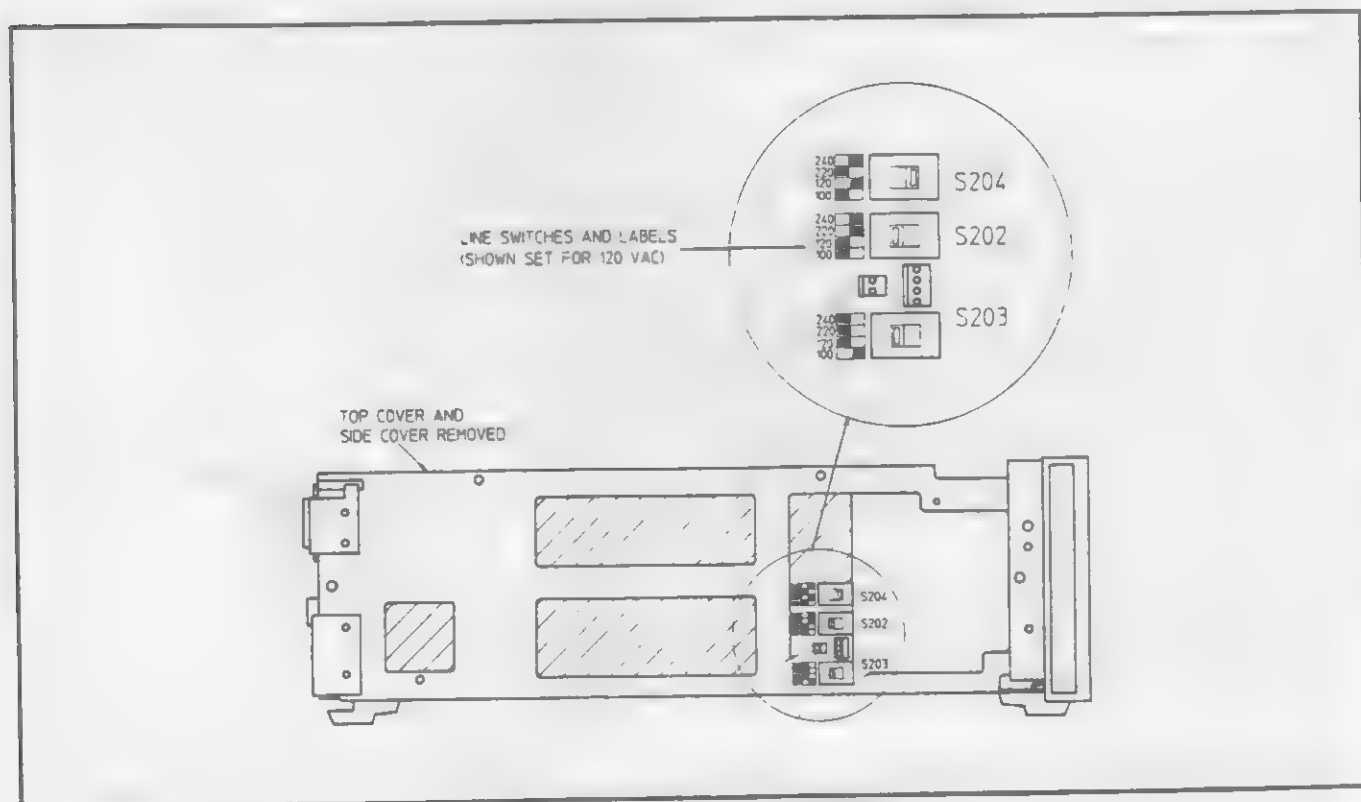

Figure 3-5. Line Voltage Switches
3. Locate the line voltage select switches S202, S203 and S204 in the Electronic Load (see Figure 3-5).